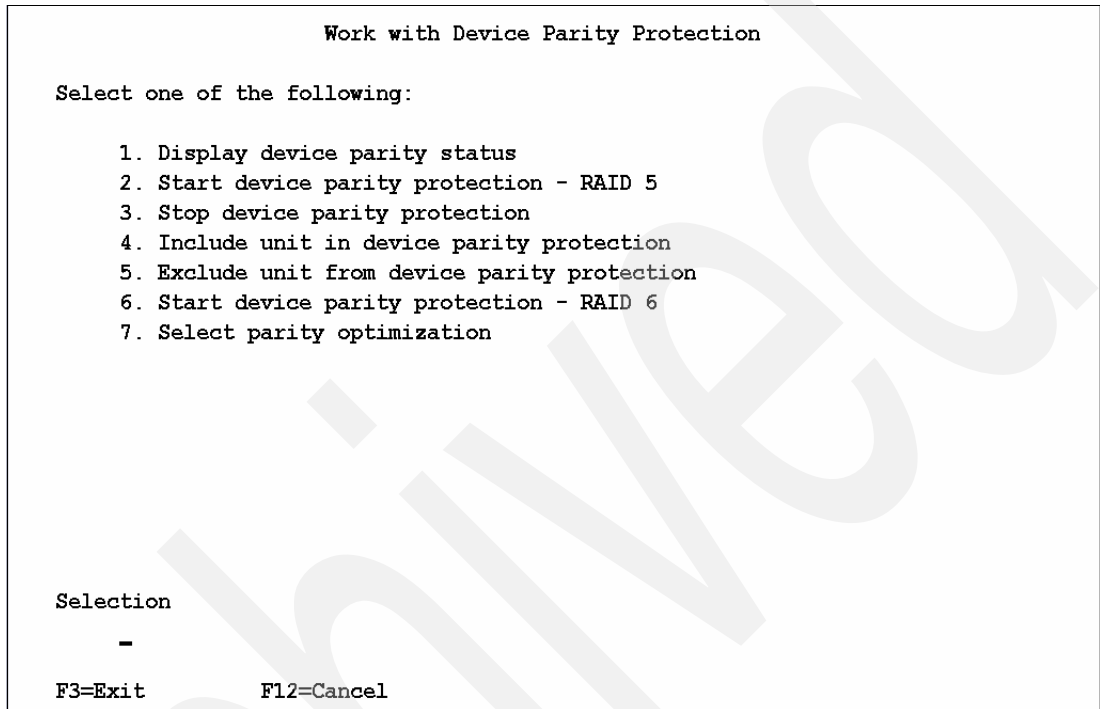

Figure 3-11 Working with device parity protection in DST
4. On the screen shown in Figure 3-11, enter 6 for **Start device Parity Protection - RAID-6**.